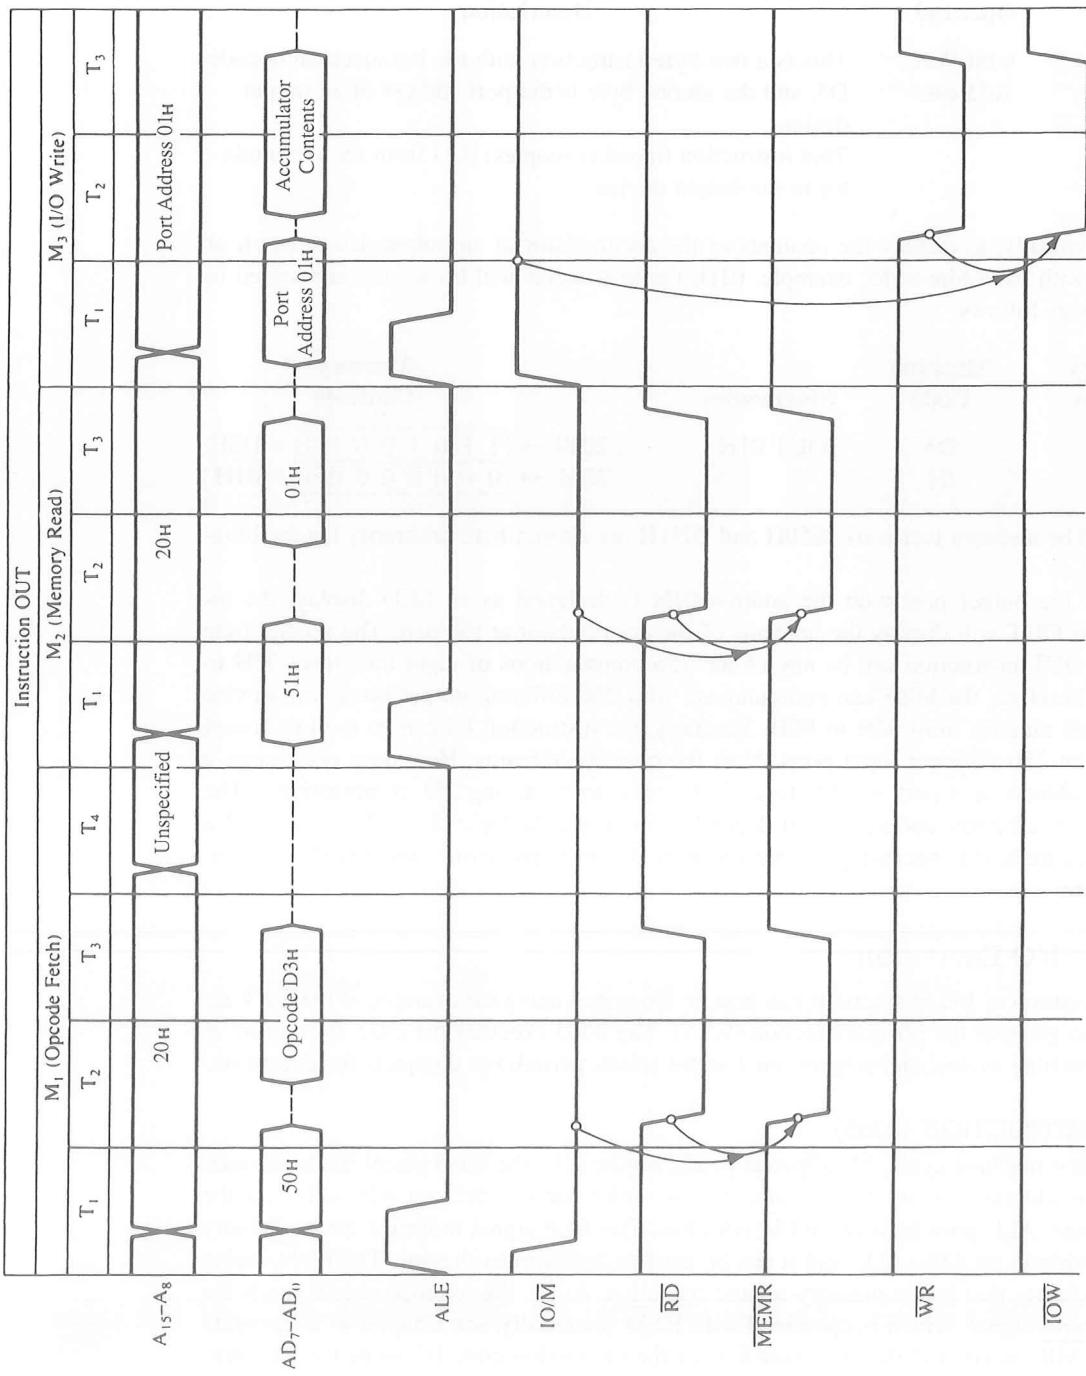

FIGURE 5.1
In the first machine cycle, M₁ (Opcode Fetch, Figure 5.1), the 8085 places the high-order memory address 20H on A₁₅–A₈ and the low-order address 50H on AD₇–AD₀. At the same time, ALE goes high and IO/M goes low. The ALE signal indicates the availability of the address on AD₇–AD₀, and it can be used to demultiplex the bus. The IO/M, being low, indicates that it is a memory-related operation. At T₂, the microprocessor sends the RD control signal, which is combined with IO/M (externally, see Chapter 4) to generate the MEMR signal, and the processor fetches the instruction code D3 using the data bus.
Figure 5.1 shows the execution timing of the OUT instruction. The information necessary for interfacing an output device is available during T₂ and T₃ of the M₃ cycle. The data byte to be displayed is on the data bus, the 8-bit device address is available on the low-order as well as high-order address bus, and availability of the data byte is indicated by the WR control signal. The availability of the device address on both segments of the address bus is redundant information; in peripheral I/O, only one segment of the address bus (low or high) is sufficient for interfacing. The data byte remains on the data bus only for two T-states, then the processor goes on to execute the next instruction. Therefore, the data byte must be latched now, before it is lost, using the device address and the control signal (Section 5.13).
The objective of interfacing an output device is to get information or a result out of the processor and store it or display it. The OUT instruction serves that purpose; during the M₃ cycle of the OUT instruction the processor places that information (accumulator contents) on the data bus. If we connect the data bus to a latch, we can catch that information and display it via LEDs or a printer. Now the questions are: (1) When should we enable the latch to catch that information? and (2) What should be the address of that latch? The answers to both questions can be found in the M₃ cycle (Figure 5.1). The latch should be enabled when IO/M is high and WR is active low. Similarly, the address of an output port is also on the address bus during M₃ (it is 01H in Figure 5.1). Now the task is to generate one pulse by decoding the address bus (A₇–A₀ or A₁₅–A₈) to indicate the presence of the port address we are interested in, generate a timing pulse by combining IO/M and WR signals to indicate that the data byte we are looking for is on the data bus, and use these pulses (by combining them) to enable the latch. These steps are summarized as follows. (For all subsequent discussion, the bus A₇–A₀ is assumed to be the demultiplexed bus AD₇–AD₀.)